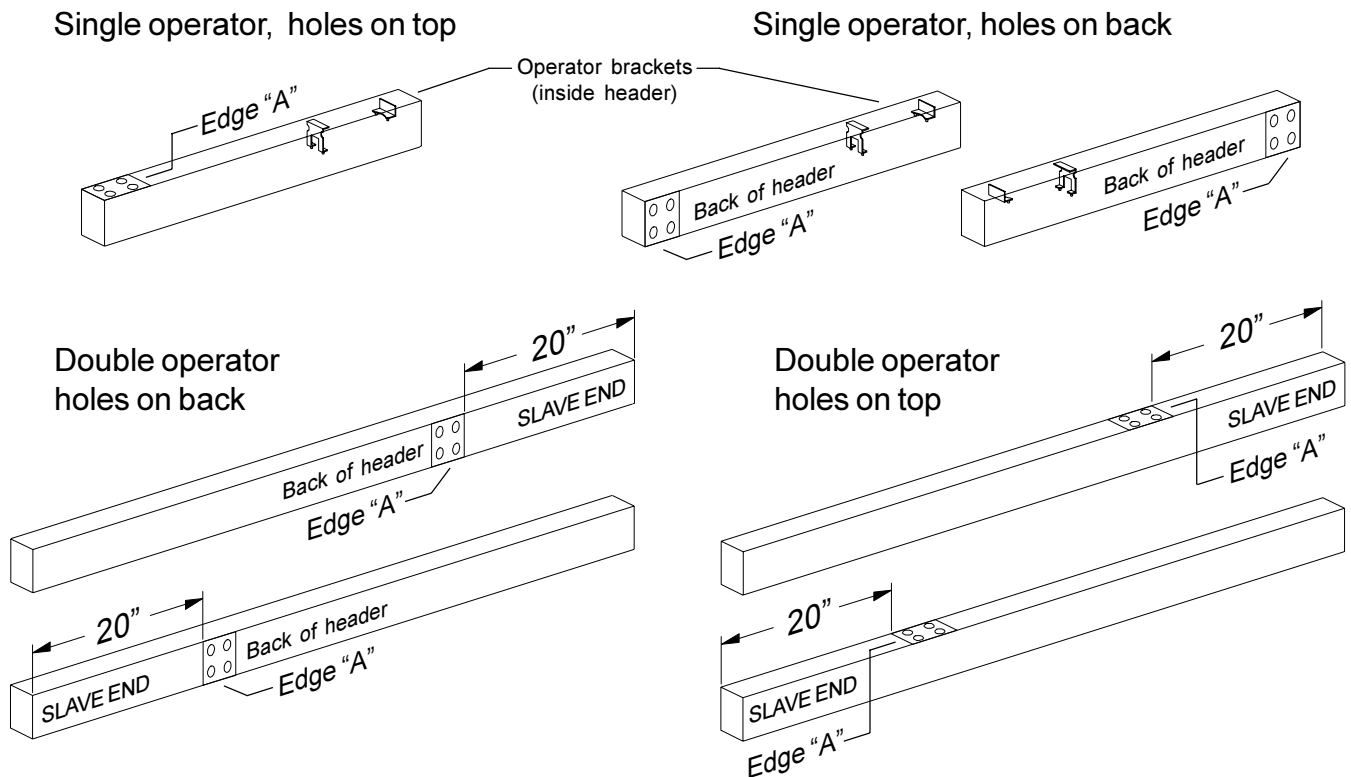

Figure 3-1
- 3.2. Refer to Figure 3-1 and step 3.3 and prepare wire access holes appropriate for the application in the header using template 91194-684. Be sure to position edge "A" of template 91194-684 as shown in Figure 3-1.